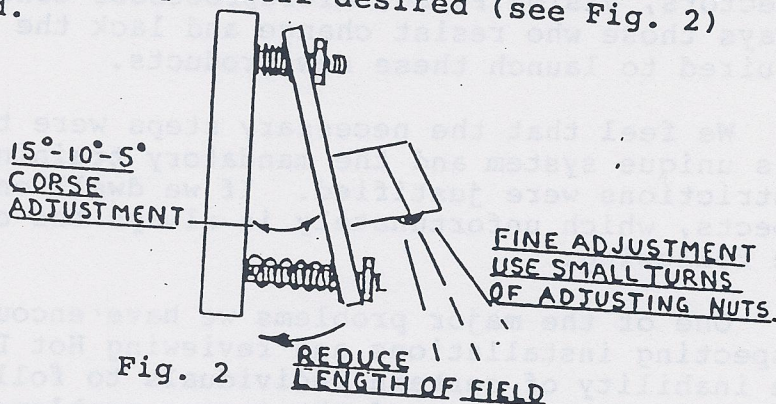

Fig. 2
9. The length (from face door to start of field) can be reduced by rotating the motion emitter module (Blb) downward in gradual (toward doors) steps until desired (see Fig. 2) length is obtained.